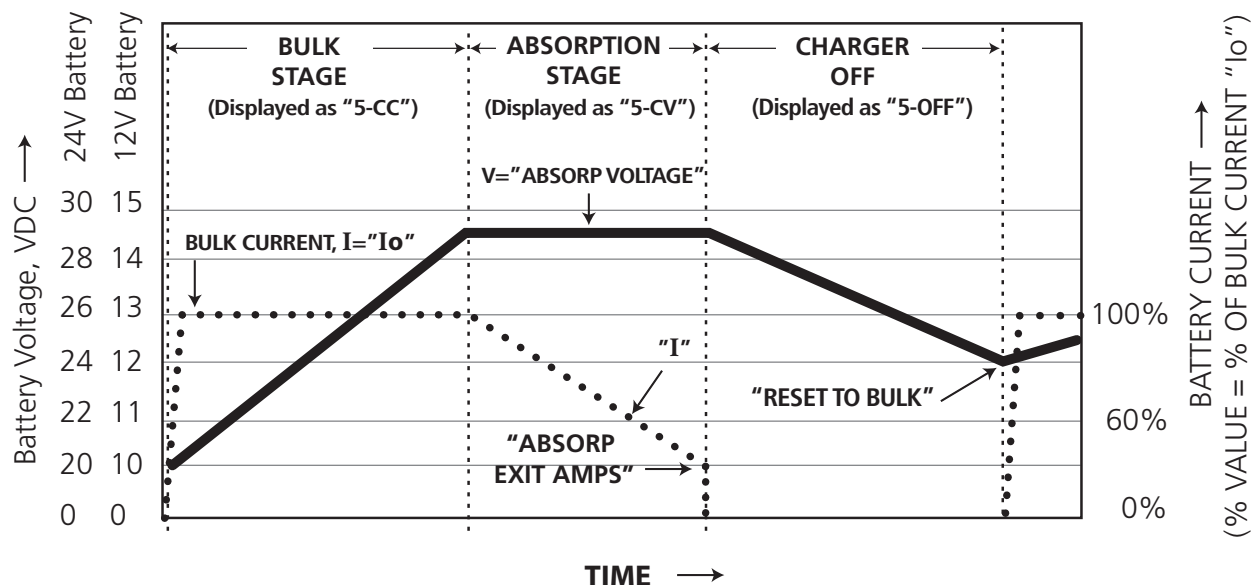

Fig 5.5 Voltage – Current (V-I) Curves for "2-Stage Type 3" Charging Profile
- 3) Option 5 = 2 Stage Type 3: Please refer to Srl. 3 of Table 5.3 for detailed description and Fig 5.5 for Voltage - Current (V-I) Curves
LEGEND for Fig 5.5
NOTES for Fig 5.5